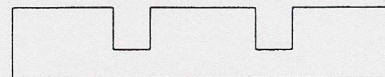

Figure 30
2. A package of shims and roll pins were taped to the door (See Figure 30). Panic the door open to access the interlocks.